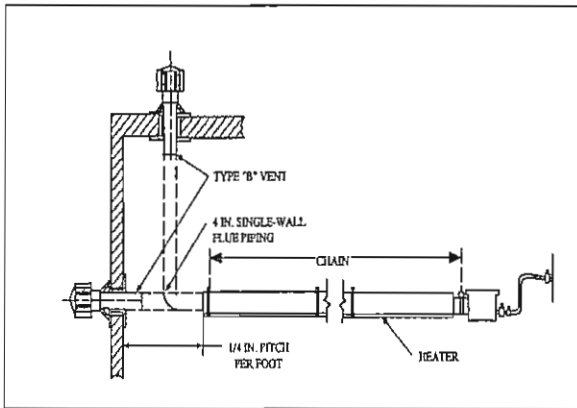

Figure 2-21
- Horizontal flues should be pitched down toward outlet, ¼ in. per foot of the vent length, to prevent rain from entering the heater (see Figure 2-21). Do not pitch heater.